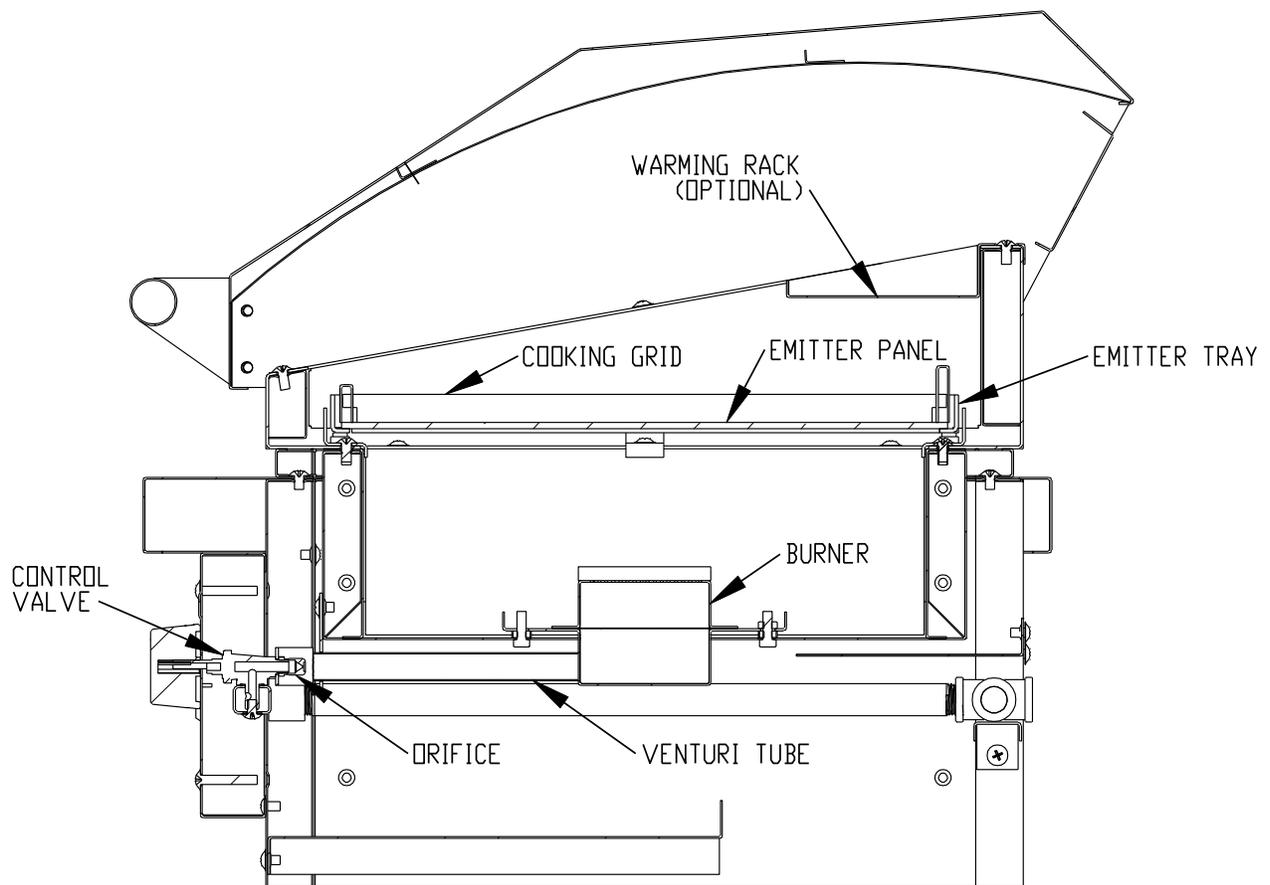

FIGURE 1
18. Check the orifices and burner venturi tubes regularly for insects and insect nests. A clogged tube can lead to a fire beneath the grill. To check for insect nests, remove the control knobs and the front control panel of your grill (see figure 1). Disconnect